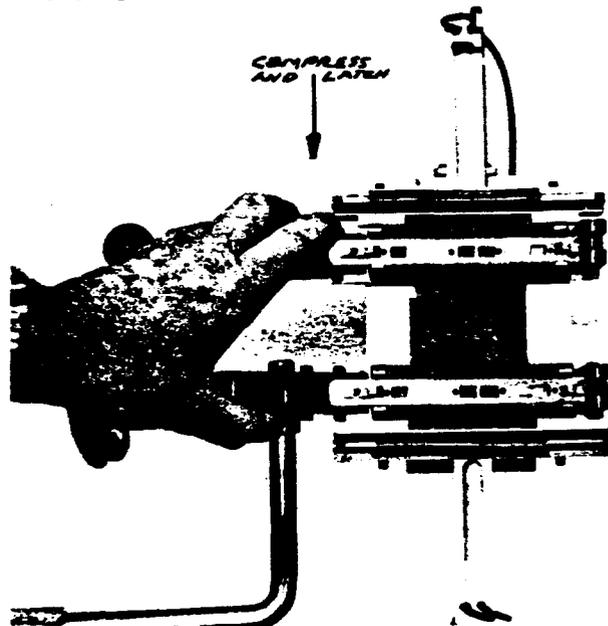

FIG. 8 COMPRESSED CONDITION (PAR. 3.243)
3.243 The movable wiring platform must be compressed as shown to install the forming head. The tool is held in this position by the latch. Later it will be shown how this tool compression is used to obtain wire slack. The tool is compressed by pressing downward on the movable comb until engaging the latch. See Fig. 8